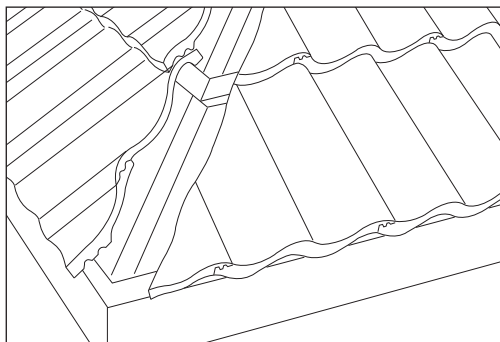

Fig 1
- 3 Mark and cut tiles accurately, abutting either side of hip rafter in a straight line, to form a gap of 110mm width (Fig 1). Ensure all raking cut tiles and slates are fully supported on the battens and if not, provide suitable packers to prevent tiles from rocking.